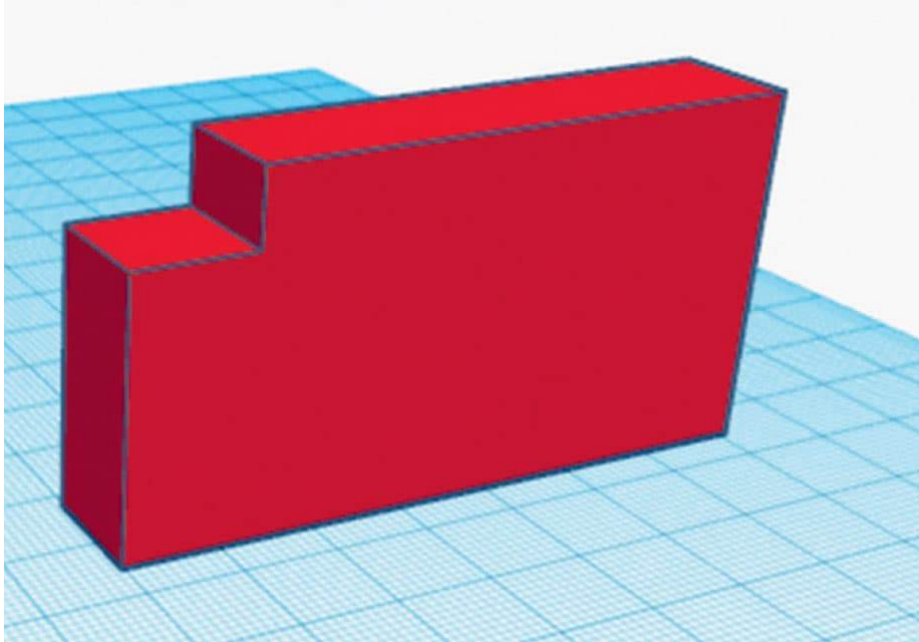

FIG. 1: Use two boxes to create a model of a palm with the lower portion representing the thumb side.
1. Create the palm of the hand using two different **Box** tools. Create a palm of width 73 mm \times 16 mm (fig. 1). The lower seat portion is the side of the thumb.